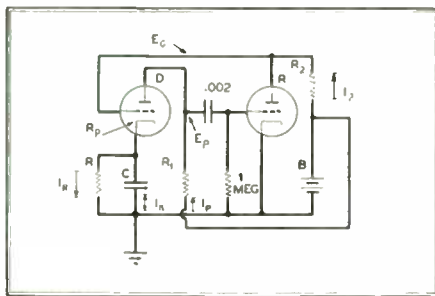
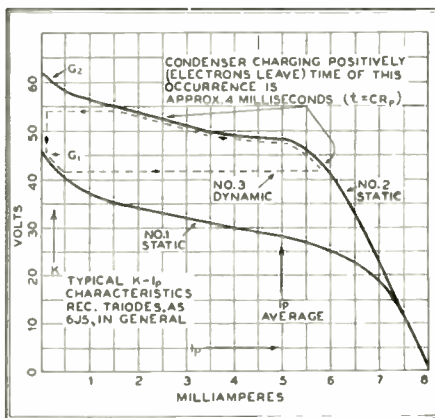
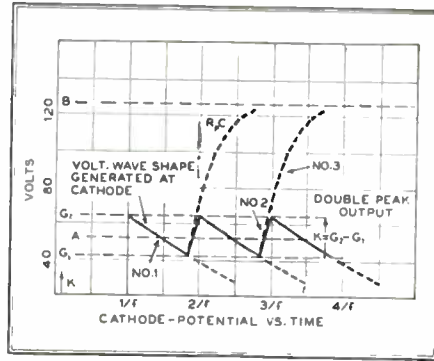
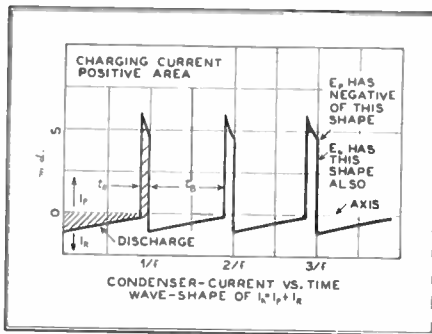

FIG. 57. A simple relaxation oscillator circuit, producing violent regeneration
FIG. 58. Typical characteristics of tube D, in the circuit shown at Fig. 57
FIG. 59. Voltage wareshape generated at the cathode of tube D, shown in Fig. 57
FIG. 60. Shape of the plate current pulses occurring through tube D, in Fig. 57
A relaxation oscillator is a generator of electric current and potential waves whose amplitudes vary between negative cutoff and positive overload, as limits. In essence, a relaxation oscillator is a violently regenerative device for which many circuit arrangements exist in practice. For purposes of illustration, a simple two-tube circuit will be discussed here, as shown in the accompanying Fig. 57.
The periodicity of the current waves is dependent in a complex manner upon the time constants of the associated circuit elements. The direct coupling path from plate to grid to plate to grid produces violent regeneration of any electrical disturbance sufficient to start the flow of plate current on the static characteristic of the discharge tube, shown in Fig. 58. The dynamic characteristic of a triode operating in the discharge position D, Fig. 57, is shown in dotted line on Fig. 58. This curve was plotted by analyzing the circuit in Fig. 57 in conjunction with the solid curve of Fig. 58.
Assume that $B = 127$ volts (Fig. 57), that the circuit constants are such that the grid potential of tube D is 43 volts, and that K , the cathode potential of D, is 65 volts. Let $R = 200,000$ ohms, $C = 0.17$ mfd. so that the time constant of discharge of the cathode circuit is $RC = 34$ milliseconds, then K will decrease exponentially with time along the solid curve No. 1 of Fig. 59. When K is approximately 50 volts (G_1 of Fig. 58) I_p starts to flow in the plate circuit of tube D. If the regeneration is so adjusted that the highest potential which the grid of the discharge tube can receive is 62 volts, then this grid, except for a delay due to
the transit time of electrons in the circuits, will immediately assume this potential and the static characteristic will shift from curve No. 1 of Fig. 58 to curve No. 2.
A reference to Fig. 58 shows that there will
ing circuit is determined by the product of C , in microfarads, and of R_p , the apparent plate resistance of tube D, in ohms. R_p is approximately $127/.005 = 25,400$ ohms. If I_p were maintained at 5 milliamperes, the cathode potential would rise exponentially with time, according to the dotted curve No. 3 of Fig. 59. K will continue to rise until $K = G_2 (= 65$ volts) at which point plate current ceases to flow in D as is shown by the static characteristic. Immediately the grid of the discharge-tube will resume its static
The alternate relaxations between the static characteristics of the discharge tube result in a dynamic characteristic, as is shown by the dotted line in Fig. 58. This characteristic shows that the plate current jumps from zero to maximum at a particular value of K . If K increases (as it must in the circuit of Fig. 57) after the maximum plate current is reached, then I_p must decrease as K increases further, according to the arrows in Fig. 58. It will be noted that as the plate voltage is increased, the $K-I_p$ curve becomes approximately exponential. In the foregoing analysis it was assumed that I_p maintained its maximum value of 5 milliamperes until the cutoff relaxation took place, in order to plot curve No. 3 of Fig. 59. Actually, since I_p decreases along curve No. 2 of Fig. 58, which has an approximately exponential shape, the effect is to increase the total time of rise of K . Thus K actually rises along the solid curve No. 2 of Fig. 59.
Neglecting the transit time of the electrons, the current flowing into the condenser C is actually as shown in Fig. 60, the shape being different from that indicated by the dynamic characteristic of Fig. 59. The reason for this difference is that when the tube is operating on the second static characteristic of Fig. 58, the variation in I_p with K causes (by regeneration) a transient signal on the discharge tube grid. Thus E_g , at the end of the cycle, lies somewhere between 62 and 43 volts. In other words, static characteristic No. 2 is not a fixed curve like No. 1, but shifts toward No. 1 continually, with the elapse of time. This is to say that cut-off, as well as initiation, of I_p occurs
regeneratively. The shape of the dynamic characteristic is actually very close to that of the plate-current pulse through tube D, as shown above the axis in Fig. 60.
Fig. 58 is an approximation only, for the purposes of explanation. The more nearly the rise, with time, in potential of K approaches a straight line, the more nearly the shape of the dynamic characteristic approaches that of the positive pulses of Fig. 60.
The portion of the cycle during which D is cut off is the *useful portion* of the cycle in television and oscillographic work. Cathode-ray tube screens are illuminated during this time, and the path of the cathode ray on the fluorescent screen has been referred to earlier as the trace of the beam. Let the ratio of the trace, or useful part of the cycle, to the whole cycle be designated by the symbol *b* which has a value always less than unity in practice. Values of the order *b* = 0.9 are representative of television and oscillographic design in general. Constants were chosen for Fig. 59 with this fact in mind. In long-period relaxations, values as great as *b* = 0.99 are entirely practical. The quantity *r* = 1 - *b* is useful as a timing-index of the wave. This was stated in (1) Subsection 2 of Section 1, Part 2 of Chapter 1.
The potential wave of Fig. 59 can be considered as the AC potential across a capacitor into which the AC current wave of Fig. 60 is flowing. This potential is expressed mathematically as
The solid curve of Fig. 59 is called the *integral* of the solid curve of Fig. 60, and conversely Fig. 60 is called the *derivative* of Fig. 59. The meaning of integration, which is the process of taking the integral of a curve, relates to plotting the area under the curve to some significant scale of values. In this case, the saw-toothed curve No. 3, of Fig. 59, represents the shape of the AC voltage waveform generated at the cathode of tube D. The axis of this AC wave is at A. (This wave is unsymmetrical about the axis because of its curvature and unsymmetrical shape.) The pulse wave in Fig. 60 represents the shape of the current, *I_k*, which flows through condenser C. The axis of *I_k* is unsymmetrically located, also, with respect to the peak and the flat of the wave because of their dissymmetry. The area of this pulse wave has the dimensions of current × time:
against the time, the graph of the potential is obtained. Curve No. 3 of Fig. 59 is this graph, and represents the plot of equation (9.0) for the case where the current is a pulse function of the time, as in Fig. 60. Thus Fig. 59 is said (mathematically) to be the integral of Fig. 60. Likewise, Fig. 60 is called the derivative of Fig. 59. Differentiation is the reverse process of integration. By plotting the derivative of a curve, the graph of the
60, except that the polarity is opposite to that of the current shown, because this current flows through a pure resistance *R₁*, which neither differentiates nor integrates. If tube R is a pure resistance-coupled amplifier, the plate potential of R will be reversed in respect to that of D, so that the grid signal *E_g* of D is a positive pulse, as shown in Fig. 60. This grid draws current during the positive portion of the cycle. The grid current merely serves to modify the exponential shape of the top of the impulse and contributes to the slight difference between curves No. 2 and No. 3 of Fig. 59.
If the amplification of the regenerative circuit is increased by an increase in the value of resistor *R₁*, a larger AC pulse will be delivered at *E_g*, and the plate-current pulse into the capacitor will be increased. Since the AC pulse, *E_g*, determines the static characteristic No. 2 of Fig. 58, the operating characteristic for the conducting portion of the cycle, which is usually termed the retrace characteristic, will be shifted so that *G₂* becomes more positive, and the difference *G₂* - *G₁* = *K* increases. The time of the trace, *t_b*, is proportional to log (*G₂*/*G₁*), and will increase also.
If the amplification of the regenerative circuit is increased by an increase in resistor *R₂*, a larger AC pulse is delivered to the discharge-tube grid, to cause an increase in *G₂* as before; but also the DC signal on the grid will be affected, so that *G₁* will decrease. Thus *G₁* and *G₂* move in opposite directions and the spread of working voltages on the exponentials (No. 1 and No. 2) of Fig. 59 is increased. Since *t_b* and *t_r* depend upon the differences between intersections of *G₁*, *G₂* with the exponentials No. 1, No. 2, then the period of the relaxation will be increased by a two-fold amount for an increase in *R₂*.